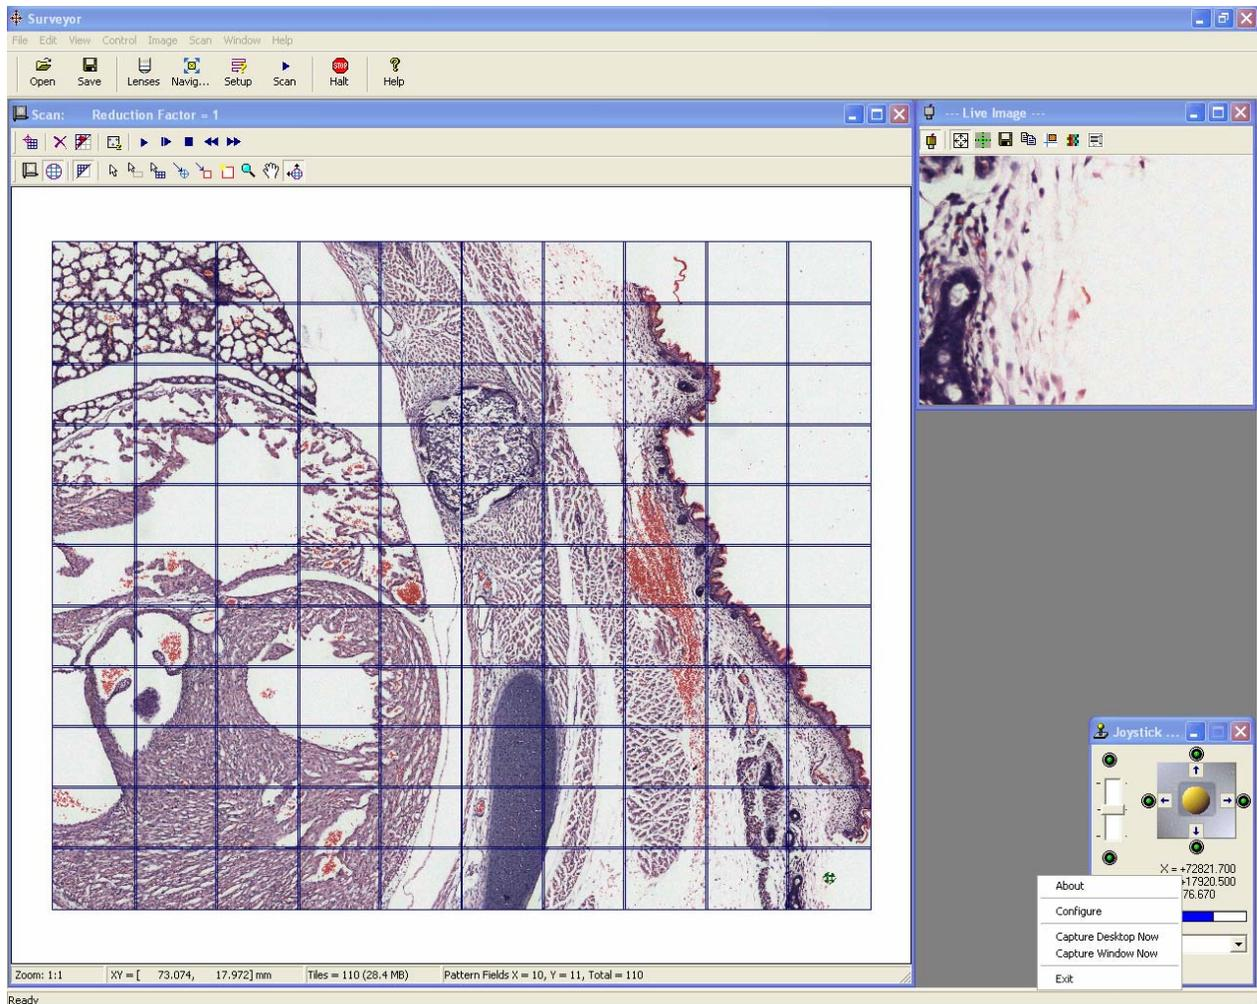

Fig. 14
10. When the scan is completed it should look like the example below (Fig. 14).